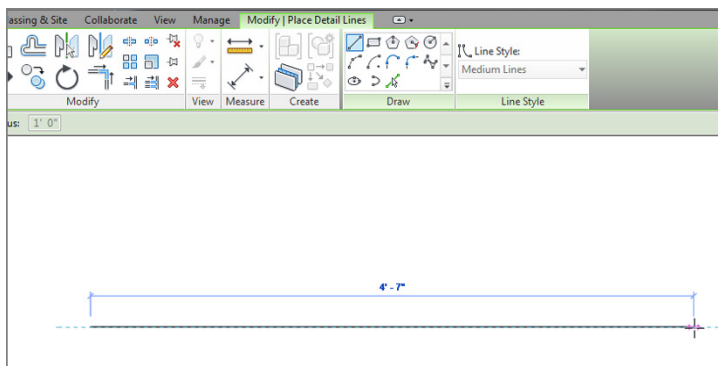

FIGURE 12.56: Drawing a detail line approximately 4'-7" (1375mm)
3. Draw a horizontal line about 4'-7" (1375mm) long, as shown in Figure 12.56.